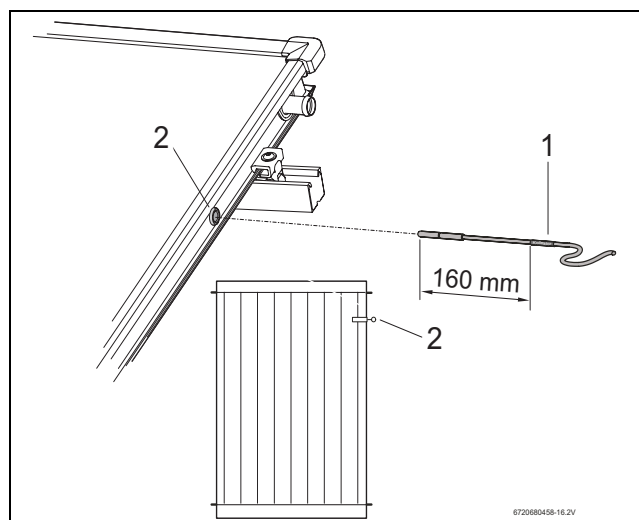

Fig. 48 Push the collector sensor into the collector
To guarantee optimum performance of the solar installation, the collector sensor (Fig. 48, [1]) must be pushed until it fully touches the sensor guide pipe (corresponding to approx. 160 mm).
- ▶ Carefully make a hole in the lining layer of the sensor pocket first (Do not try to push through the sensor unless the lining layer seal has been broken). A screwdriver can be used for this (Fig. 48, [2]).